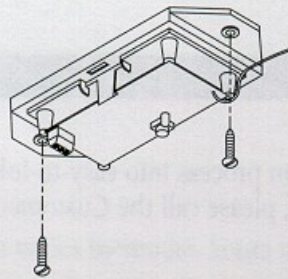

Figure 2-2
Step 2 • **MOUNT** the Receiver using two pan head screws. (Figure 2-2)